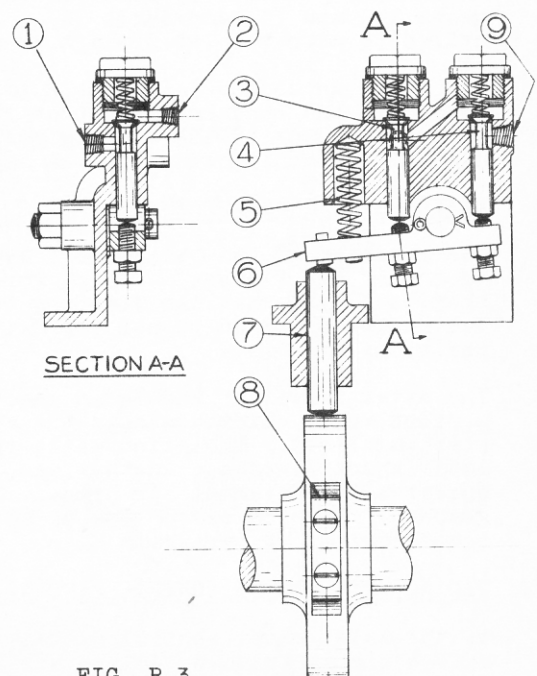

FIG. R-3
All the pilot valves for operation of the starting air valve, flywheel brake, etc. are identical and are illustrated in Fig. R-3. They are mounted on top of the latch box between cylinders No. 5 & 6. The operation of all valves is exactly the same, their function being to control the supply of air to the device to which they are connected.
The valve as shown in Fig. R-3 is in the normal position assumed when the engine is running. Plunger (7) is then held down